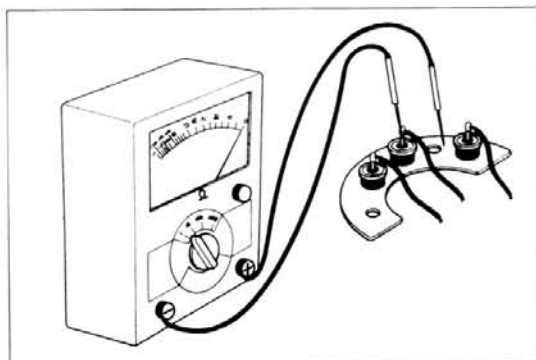

Fig. 5-20 Rectifier Test
1. Rectifier holder positive lead. Connect the tester (+) lead onto the rectifier holder and the (-) lead onto the rectifier lead as shown in Fig. 5-20, and check the resistance. Good rectifier will indicate no resistance, and if it indicates a high resistance, the rectifier is opened. Next, turn the polarity of the tester and check again. If the tester needle moves in either polarity, the rectifier is shorted. If the needle does not move in either polarity, the rectifier is opened, and should be replaced with the holder assembly.